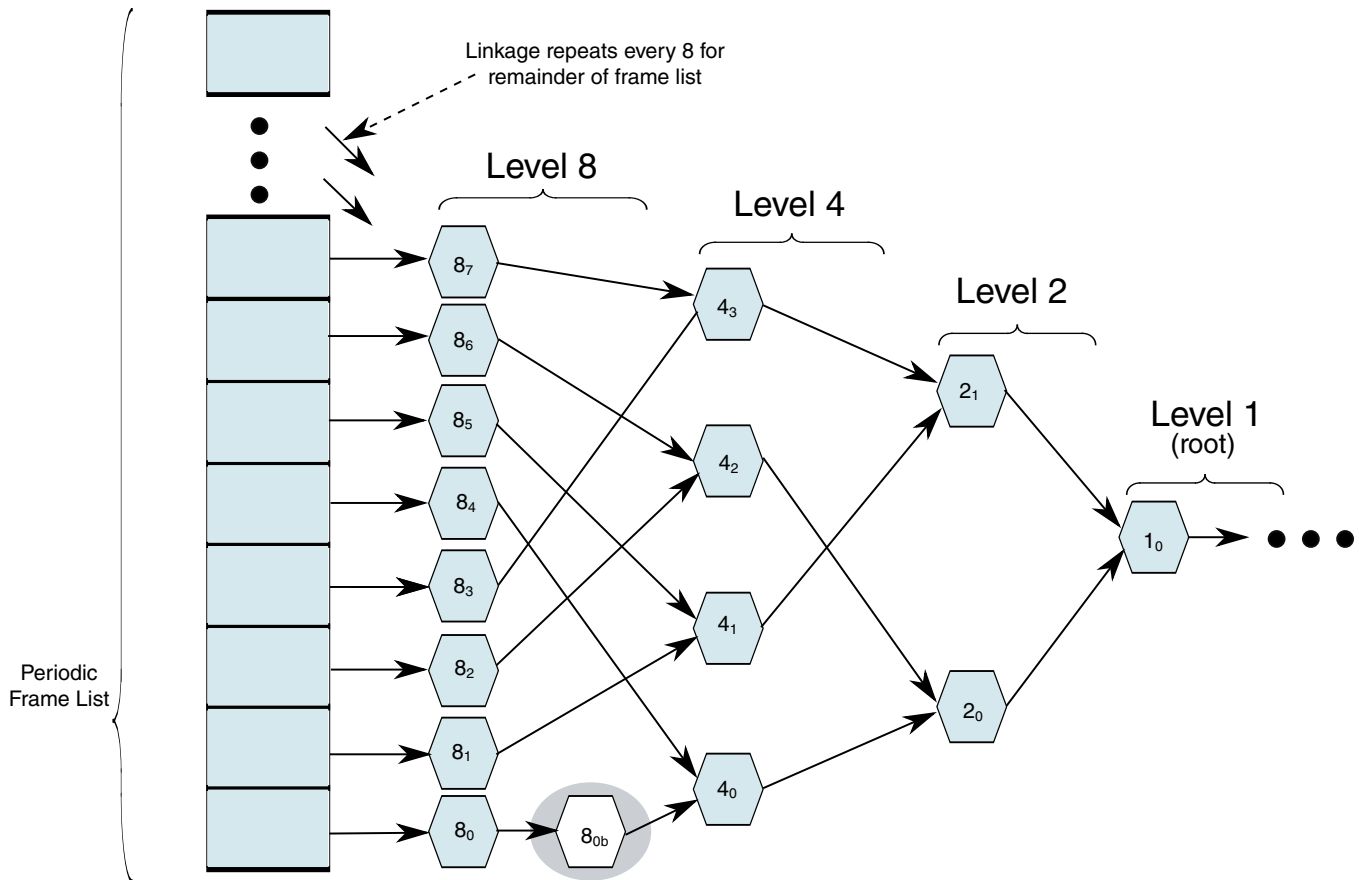

**Figure 35-20. Split Transaction, Interrupt Scheduling Boundary Conditions**
- *Frame S-mask*. This is a bit-field where-in system software sets a bit corresponding to the micro-frame (within an *H-Frame*) that the host controller should execute a start-split transaction. This is always qualified by the value of the *SplitXState* bit in the *Status* field of the queue head. For example, referring to Figure 35-20, case one, the *S-mask* would have a value of 00000001b indicating that if the queue head is traversed by the host controller, and the *SplitXState* indicates Do\_Start, and the current micro-frame as indicated by FRINDEX[2:0] is 0, then execute a start-split transaction.
- *Frame C-mask*. This is a bit-field where system software sets one or more bits corresponding to the micro-frames (within an *H-Frame*) that the host controller should execute complete-split transactions. The interpretation of this field is always qualified by the value of the *SplitXState* bit in the *Status* field of the queue head. For example, referring to Figure 35-20, case one, the *C-mask* would have a value of 00011100b indicating that if the queue head is traversed by the host controller, and the *SplitXState* indicates Do\_Complete, and the current micro-frame as indicated by FRINDEX[2:0] is 2, 3, or 4, then execute a complete-split transaction. It is software's responsibility to ensure that the translation between *H-Frames* and *B-Frames* is correctly performed when setting bits in *S-mask* and *C-mask*